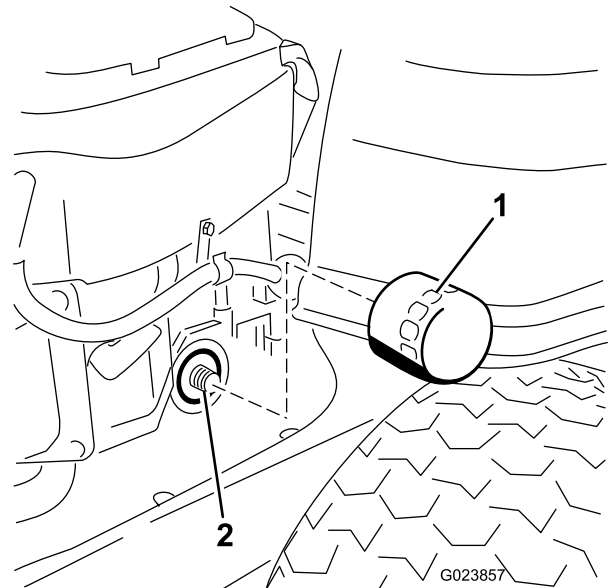

Figure 31
9. Locate the oil filter on the right side of the engine. Remove the old filter and wipe off the filter adapter with a clean cloth (Figure 31).
the pad, then tighten the filter an additional 3/4 to 1 turn (Figure 31). Wipe up any excess oil on the frame.